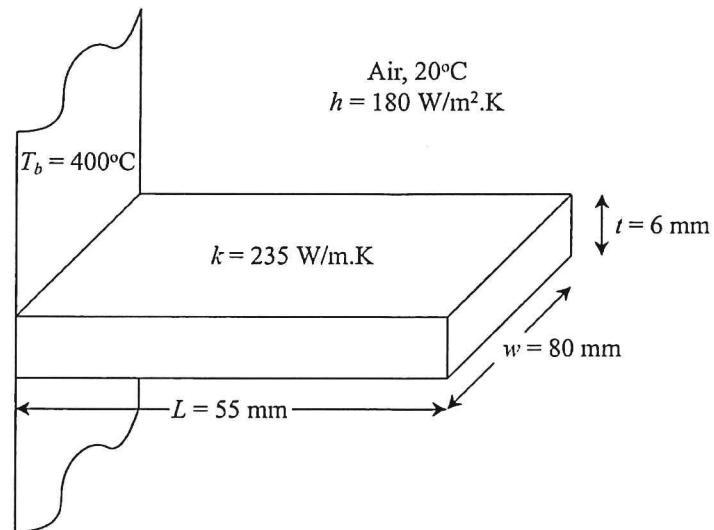

Figure 3: Rectangular fin
*Refer Below - Figure3 : Rectangular fin .*